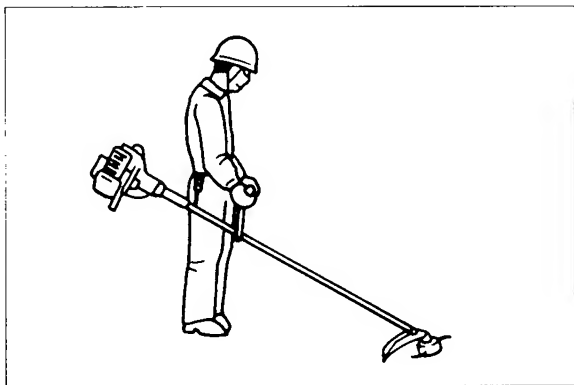

Fig. 21
1. Adjust the strap length so that the nylon cutting head will be kept parallel with the ground. (Fig. 21)